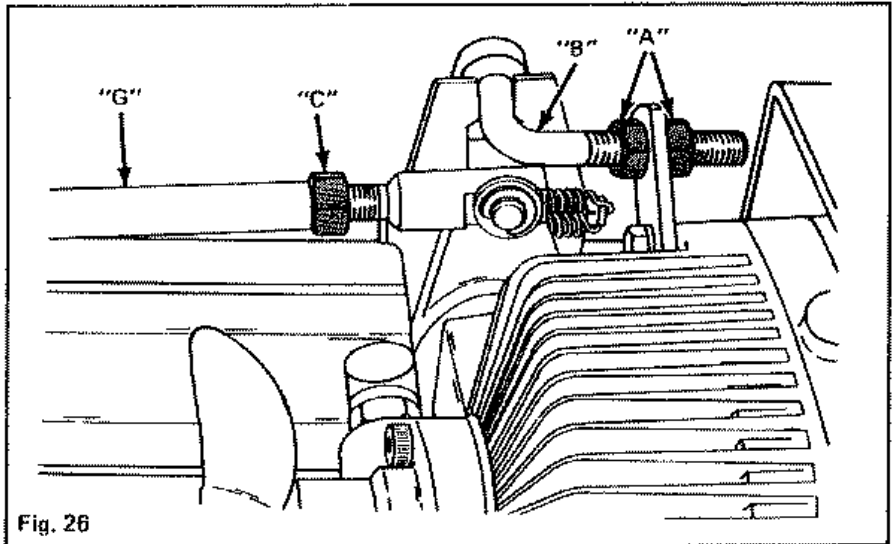

Fig. 26
4. Loosen nuts "A" Figure 26, if the rear wheels creep "Forward" shorten link "B" Figure 26 until wheels stop creeping. If the rear wheels creep "Backward" lengthen link "B" until wheels stop creeping. Retighten nuts "A".
1. Loosen nut "C" Figure 26.